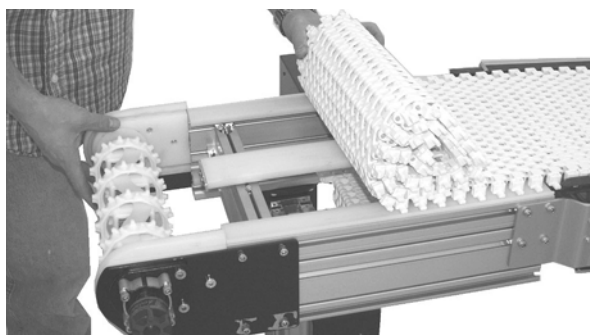

Figure 14
1. Position the belt on the conveyor frame (Figure 14).